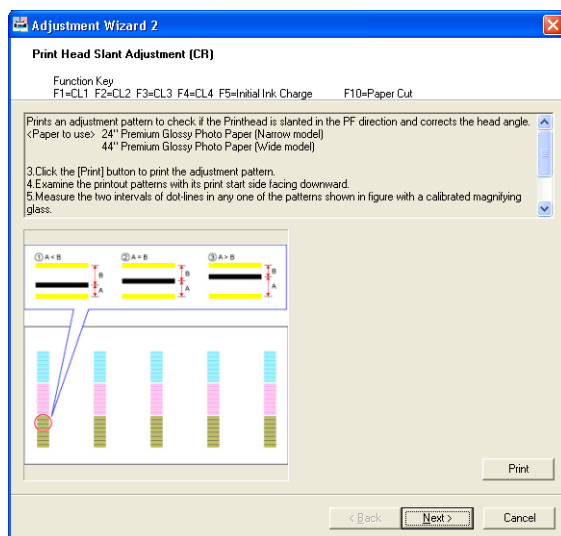

Figure 5-37. [Print Head Slant Adjustment (CR)] Screen (1)
11. Press the [Back] button to return to the Screen 1 (Figure 5-37) and click the [Print] on the screen to print the adjustment pattern again. The Carriage Unit automatically moves to the center upon finishing the printing.